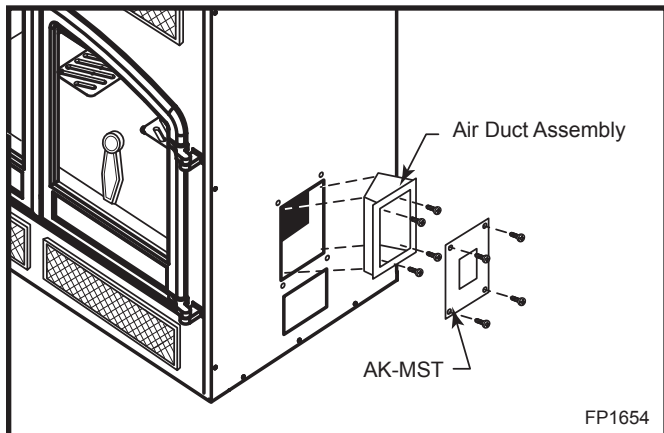

Fig. 14 Air duct assembly.
**NOTE:** Air duct assemblies must be installed in conjunction with the AK-MST or cold air will enter the home. (Fig. 14)
**NOTE:** Four (4) inch Class 1 air duct, material or metal duct (not supplied) may be used with AK-MST. (**For installation in New York State, only aluminum, non-combustible flexible or type "O" metal ducting is permissible.**)
- Slide the two (2) air duct assemblies provided with the unit into the openings on each side of the unit. (Fig. 14)
- Attach the air duct assemblies to the inside panel with four (4) screws removed in Step 1. (fig. 14)